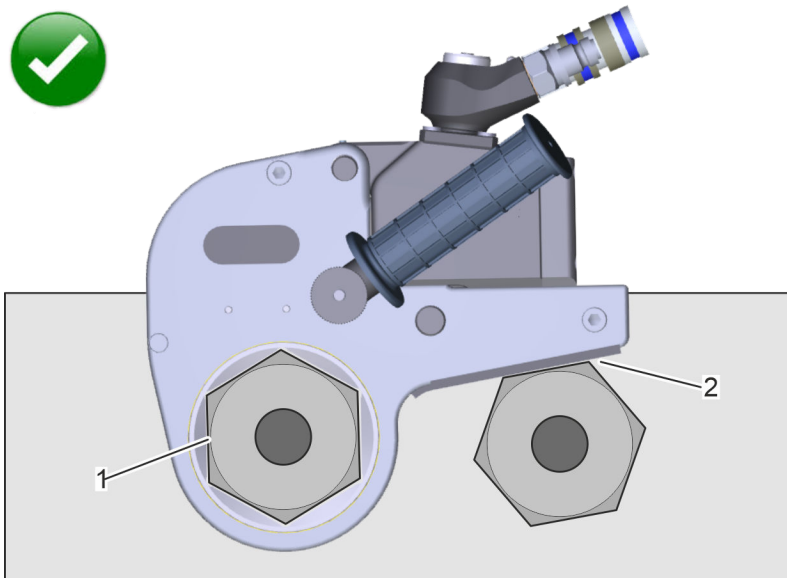

Fig. 20: Ideal bracing situation
3. ➤ Ensure that the reaction arm is in full contact with the bracing surface (Fig. 20/2) and cannot slip out of place.